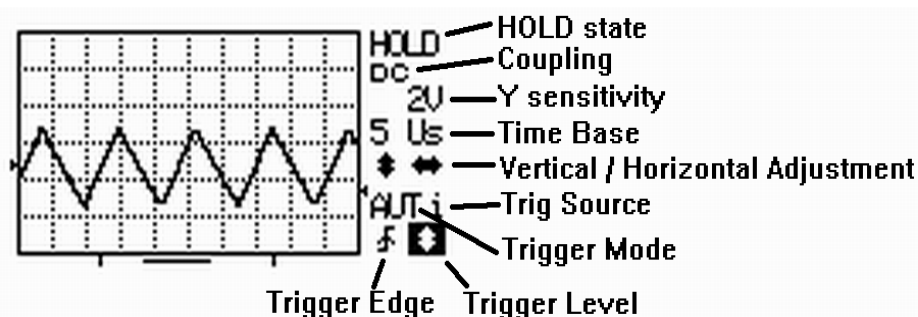

Fig. 2
- 5) Scope setting indicators – their meanings are shown in Fig. 2.
The function of M.F.T. is selected by [LEVEL] key and indicated by the small letter at the right of trig mode indicator (see Fig. 2). The table below summarize the usages of M.F.T. and their relations.